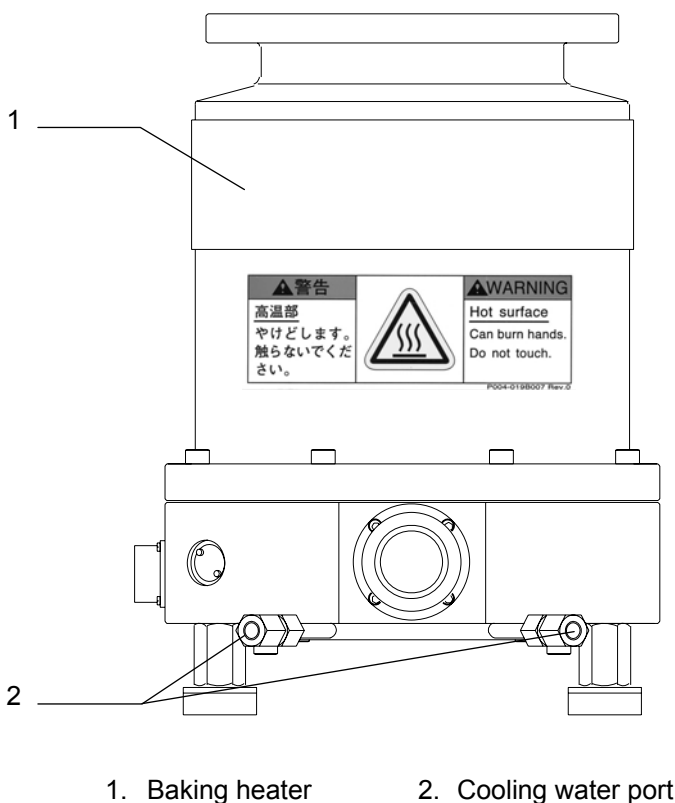

Figure 15 - Positions of the cooling water port and baking heater
Secure the connection pipe to prevent water leakage and use cooling water under the conditions provided in the STP Pump Instruction Manual (B). Install a secondly containment for liquids or a water leak detector in the place (ex. cooling water ports) where cooling water may leak. Figure 15 shows the position of the cooling water ports. The STP pump in Figure 15 is a typical pump model. Refer to the STP Pump Instruction Manual (B) for the configuration of each STP pump.
2. Affix the hot surface warning label attached on the surface of the pump seen well. (see Figure 15)